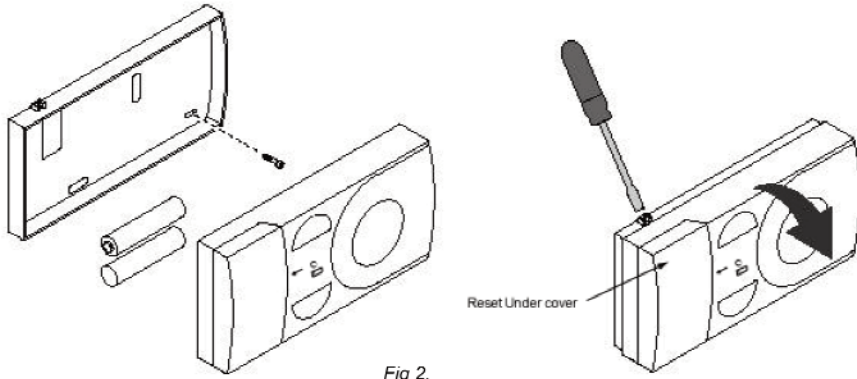
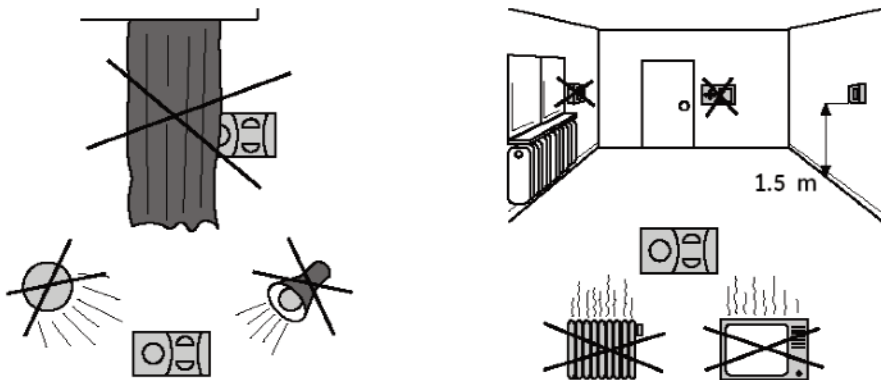

Fig 2.
Fig 3.
3. Installation of Transmitter – see Figs. 2 & 3
Locate and fit the Transmitter as in Fig. 2. taking into consideration where *not* to position the Transmitter as shown in Fig. 3. The following can reduce, deflect or block radio frequency signals between the Transmitter and Receiver: